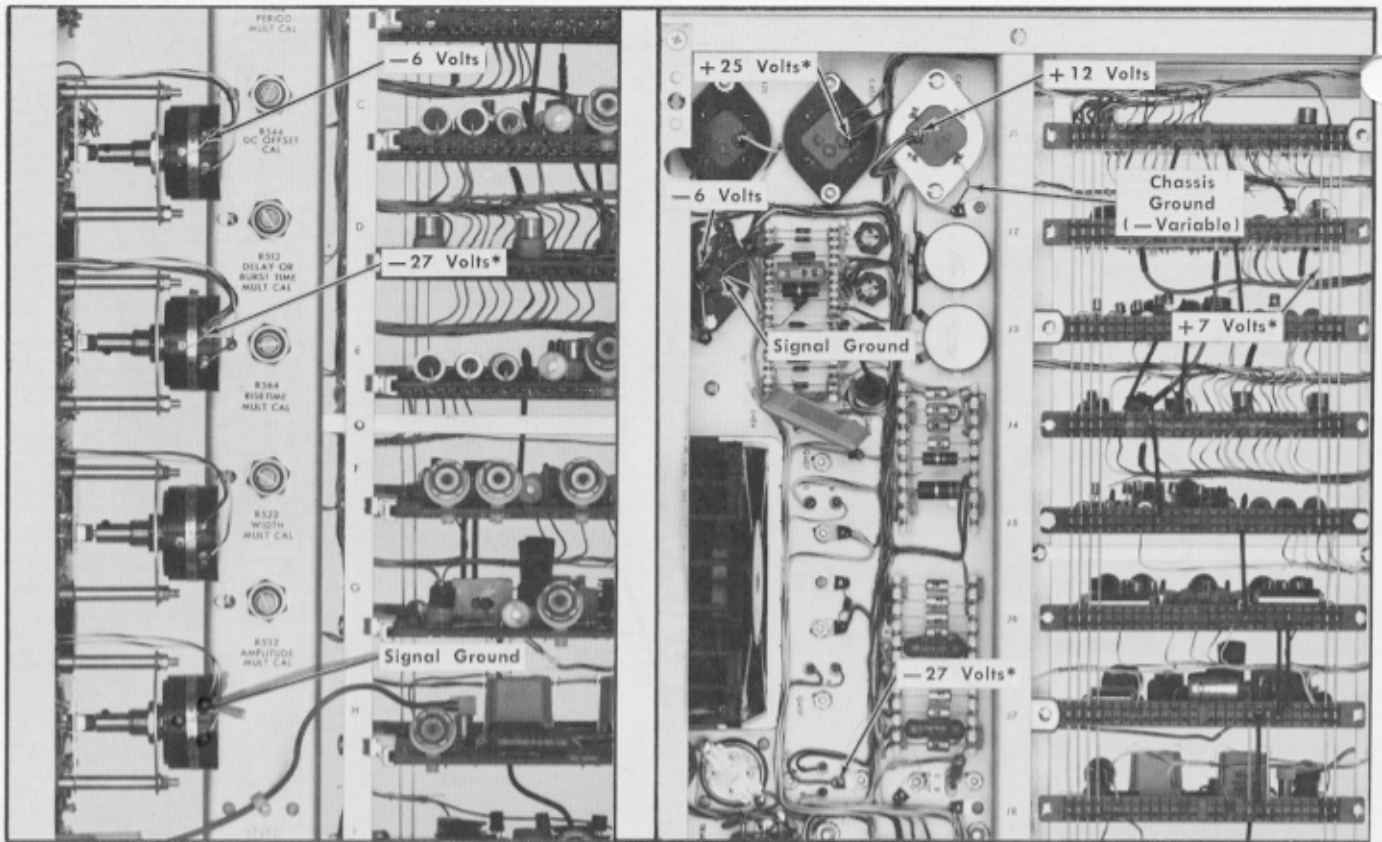

Fig. 7-5. Power-supply test points for checking voltages and regulation.
- c. Connect the negative lead of the differential voltmeter to the signal ground test point (see Fig. 7-5) and the positive lead to the +25-volt test point.¹
- a. Move the positive lead of the differential voltmeter to the +7-volt test point (see Fig. 7-5).
- h. Move the negative lead to the chassis ground (-Variable) test point (see Fig. 7-5).
- Connect the Channel B 1× test probe to the signal ground test point (see Fig. 7-5).
Voltage Test Point (Fig. 7-5)	Maximum Ripple